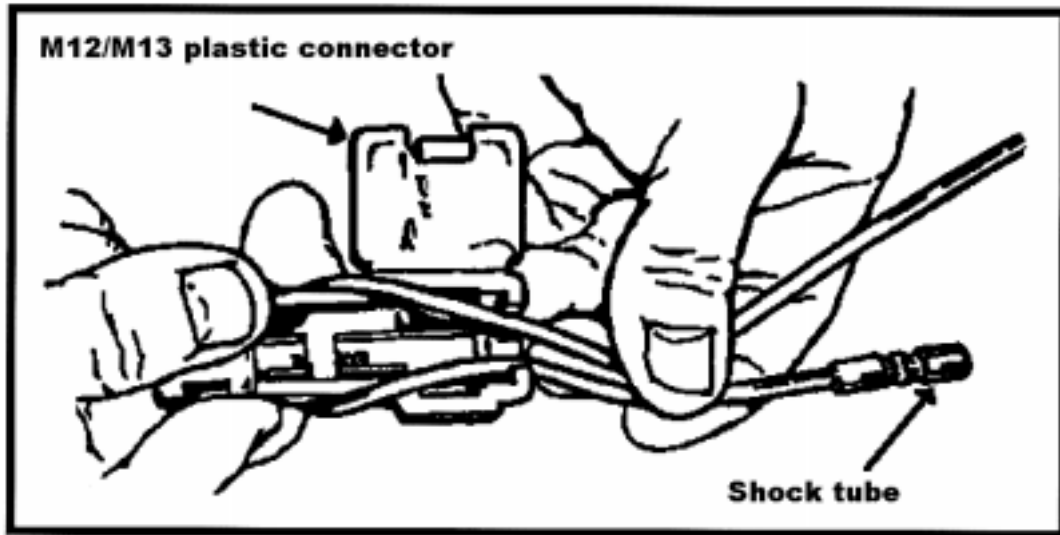

Figure 051-193-1312-1
- (1) MDI-demolition firing system. Remove the plastic connector from underneath the sandbag. Open the large-hinged flap on the plastic connector of the M12 or M13 transmission line and loop the end of the firing system shock tube into a 6-inch bite around the plastic connector. Insert the shock tube into the channels of the plastic connector. Snap the large-hinged flap shut and secure it with tape (Figure 051-193-1312-1).